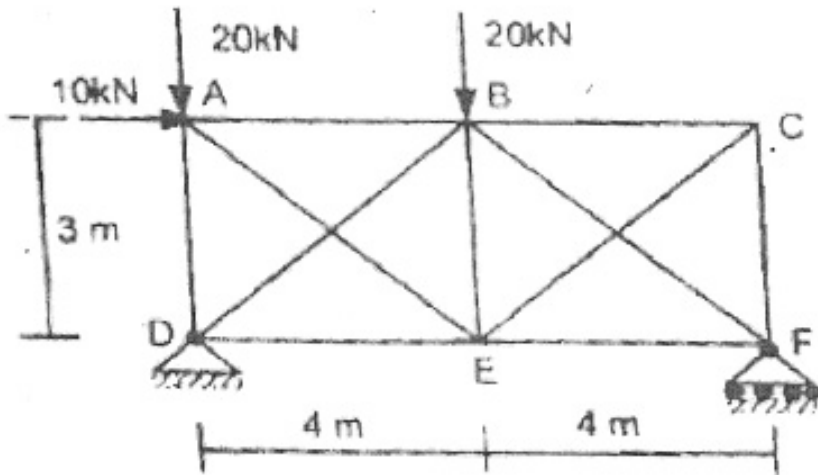

Fig. 7
7. Using flexibility method find the forces in the members AE and CE of the truss as shown in fig. by taking these as a redundant. Axial rigidity for vertical and horizontal member is EA and for diagonal member is 2 EA. Refer Fig. 7.